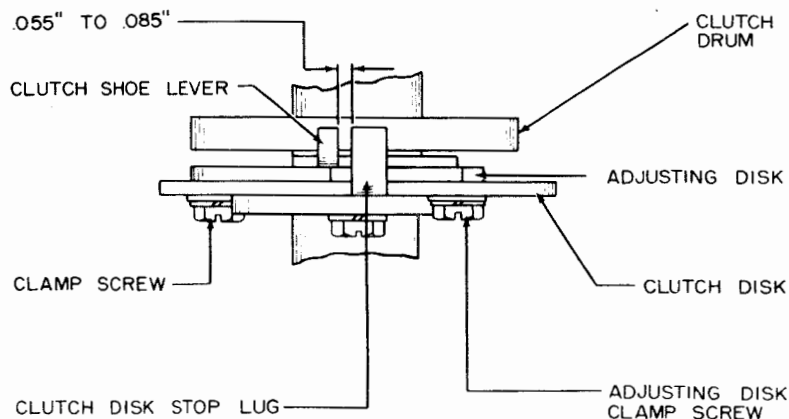

Figure 6
2.14 Clutch-shoe Lever: With the clutch in its latched position (clutch disengaged) measure the gap between the clutch-shoe lever and the clutch disc stop lug. With the clutch engaged and with the shaft rotated until the clutch-shoe lever and the stop lug are easily accessible (and the stoplever not engaging the clutch-shoe lever) again measure the gap between the shoe lever and the stop lug. This gap shall be minimum 0.055, maximum 0.085 inch greater than the one previously measured. (See Figure 6.)